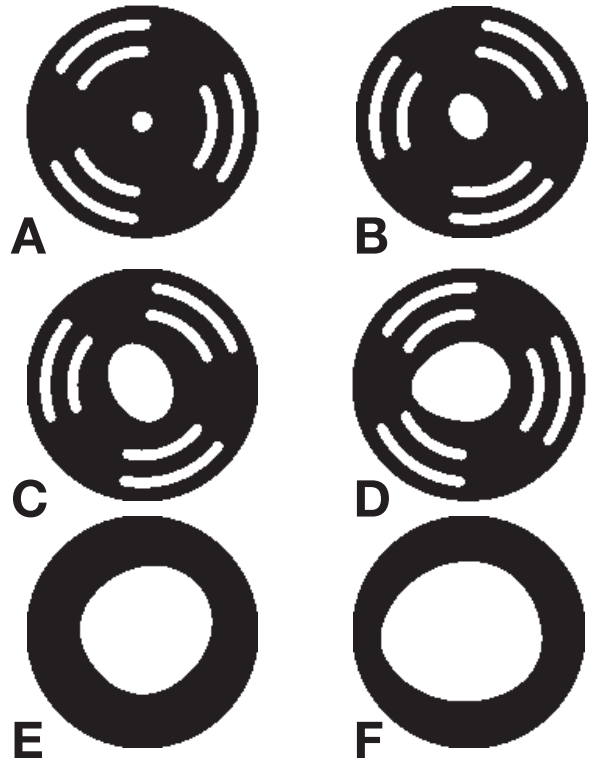

FIGURE 7
1. Using the recommended table inserts shown in Figure 7, select the desired table insert.